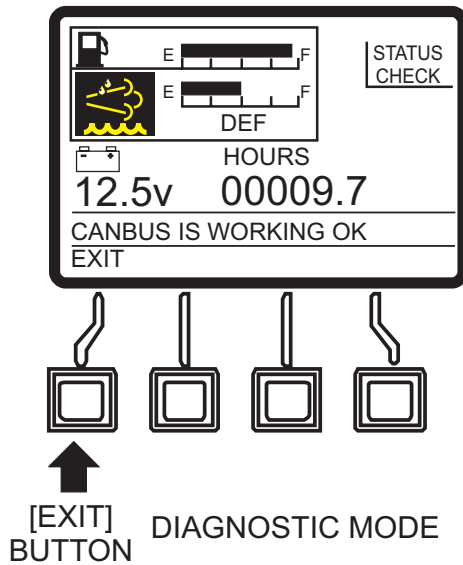

Figure 95. Status Check Screen (Diagnostic Mode)
2. Exit the Status Check Screen by pressing the **[EXIT]** button (Figure 95).